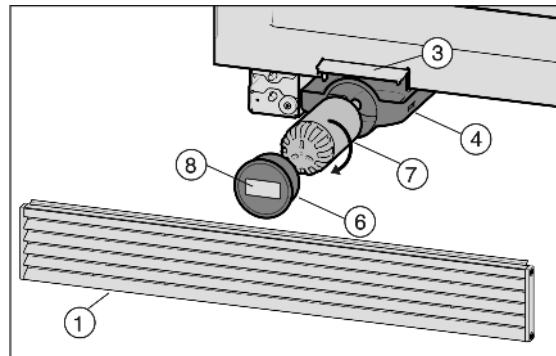

Fig. 59
- ▶ If necessary, remove ventilation grille *Fig. 59 (1)*.
- ▶ Remove the filter cover *Fig. 59 (6)*.
- ▶ Insert water filter *Fig. 59 (7)* and turn it approximately 100° clockwise as far as it will go.
- ▶ Insert the drawer *Fig. 59 (4)*.
- ▶ Place the cover *Fig. 59 (6)* on the filter.
- ▶ Write the date of the next filter replacement on the label *Fig. 59 (8)* supplied and affix it to the filter cover *Fig. 59 (6)*.
- ▶ Fit ventilation grille *Fig. 59 (1)*.